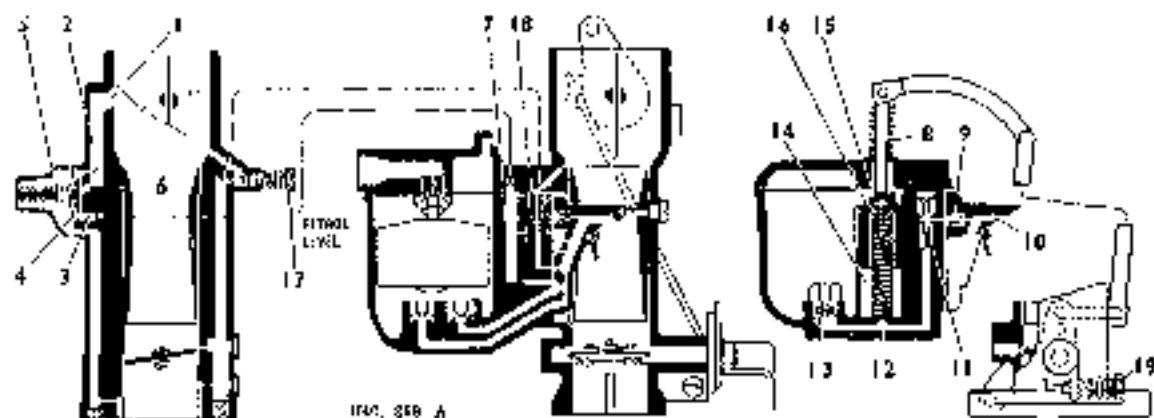
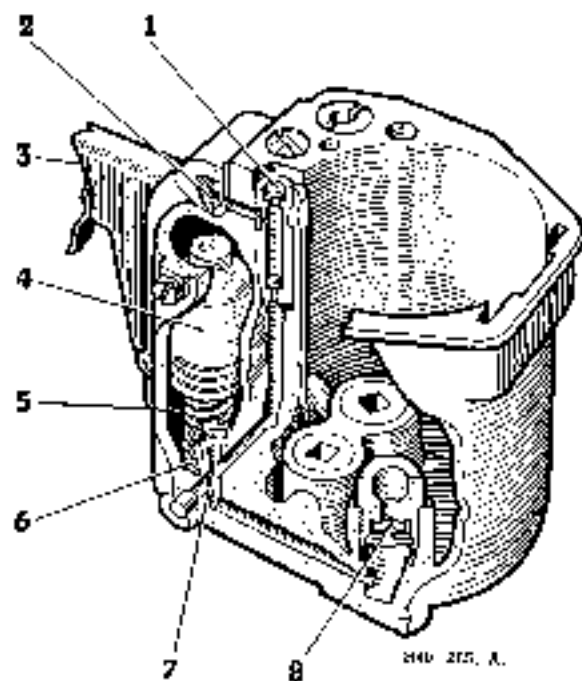

Fig. 6. Diagrammatic section of carburetor.
Fig. 7. The accelerating pump.
When running on the main carburettor with the throttle closed down to the idling position, the mixture will be supplied from the slow running jet 18, Fig. 6.
With the strangler out of action and the throttle just slightly open, the depression will be concentrated on the outlet, which will in turn be directed on the slow running jet 18. Consequently petrol will be drawn from the well beneath the jet, measured on passing through, and will meet an entering at the base of the adjustment screw 17, Fig. 6. The amount of air mixing with the petrol from the slow running jet is controlled by this screw.
Further opening of the throttle will cause the depression to be concentrated on the nozzle of the emulsion block which projects into the narrowest part of the choke tube. This results in petrol being drawn from the common channel, the passage of the slow running jet and main jet outlet, so that the source of petrol supply is eventually through the main jet and compensating jets. It will be observed that petrol in the well of the capacity tube 7 (Fig. 6) has been consumed and, as the top of the well is open to the atmosphere, petrol rising from the main and compensating jet is now under atmospheric pressure. As a result petrol drawn from the jets will be broken up in the main channel by air from the capacity tube. This mixture will then be drawn from the emulsion block nozzle into the choke tube.
Following normal V type carburation practice, the air bleed up to the jets is by way of the capacity well 7 (Fig. 6). The air bleeding originates at the drilling 1 inside the air intake.
Operation of the pump coincides with the depression of the accelerator pedal. By means of an interconnection with the throttle lever the pump rod 8 (Fig. 6) forces down the piston 15 against the action of the spring 16 as the throttle is opened. Consequently petrol in the pump well 14 is forced out through the drilling 12 in the base of the well. See also Fig. 7.
The stop screw 19 (Fig. 6) determines the speed of slow running. To increase the slow running speed, the stop screw must be turned in a clockwise direction. If turned anti-clockwise, a slower "tick-over" will be obtained.
Fuel from the pump enters the float chamber cap at the banjo type union (A), Fig. 6.